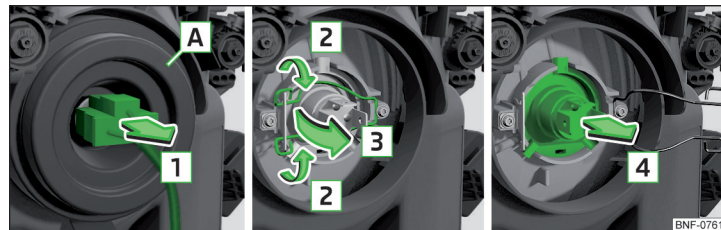

Fig. 172 Removing bulbs for low and main beam
- Remove the connector from the bulb in the direction of arrow **1** » Fig. 172.
- Press the safety catch in the direction of the headlamp and then unhook in the direction of arrow **2** » Fig. 172.